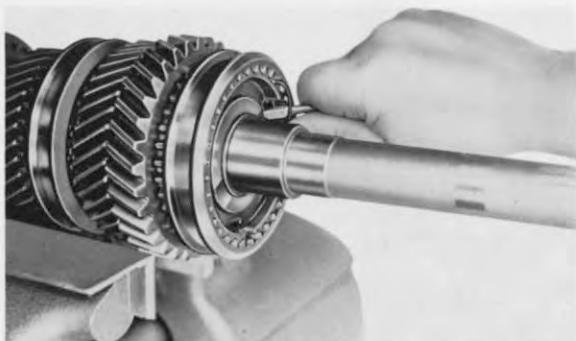

Fig. 19
1. Remove thrust washers (422) and 1st gear (421) with synchro ring (402) and needle cage (408) from the main-shaft.
2. Remove synchro spring (403) from the pressure piece (404) (Fig. 19). Pull sliding sleeve (420) from the synchro